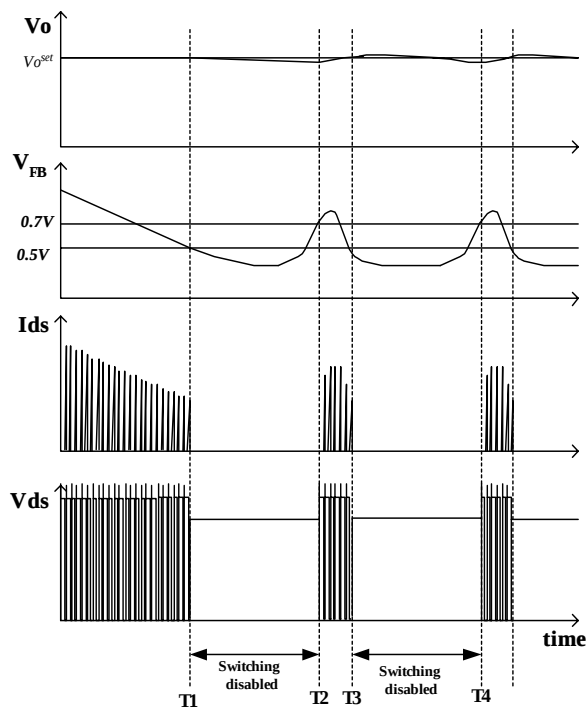

Figure 8. Waveforms of burst operation
5. Burst operation : In order to minimize power dissipation in standby mode, the FSDM07652RB enters burst mode operation. As the load decreases, the feedback voltage decreases. As shown in Figure 8, the device automatically enters burst mode when the feedback voltage drops below $V_{BURL}(500\text{mV})$. At this point switching stops and the output voltages start to drop at a rate dependent on standby current load. This causes the feedback voltage to rise. Once it passes $V_{BURH}(700\text{mV})$ switching resumes. The feedback voltage then falls and the process repeats. Burst mode operation alternately enables and disables switching of the power Sense FET thereby reducing switching loss in Standby mode.